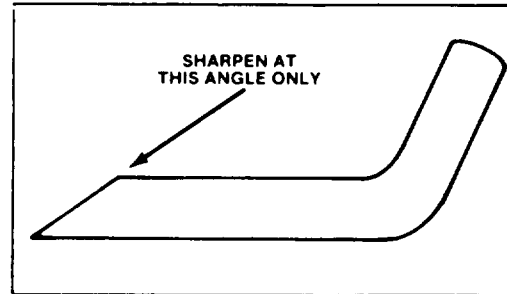

Figure 16
6. SHARPENING BLADE – Using a file, sharpen top side of blade and maintain original cutting angle (Fig. 16). The blade will remain balanced if same amount of material is removed from both cutting edges.